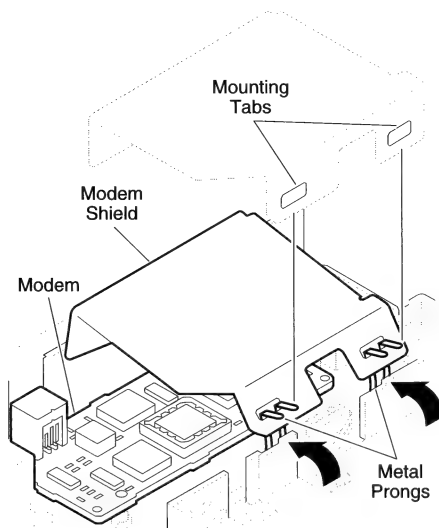

Figure 3 Internal Modem Installation
2. Push the metal prongs (Figure 3) toward the back of the computer until you can lift the modem shield up and out of the bottom cover.